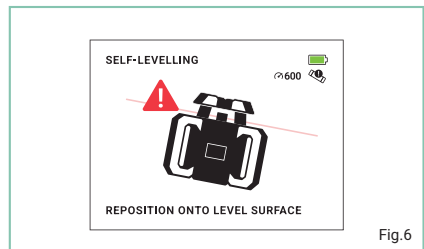

Fig.6
- If the laser level is outside the self levelling range, the laser level will not level causing the laser beam to flash continuously. The LCD screen will display the words 'reposition onto a level surface' (Fig.6). If this occurs, reposition the laser level onto a level surface until the laser level can level off. When the laser is out of level, the following icon will be displayed on the LCD screen on the laser level and remote control: